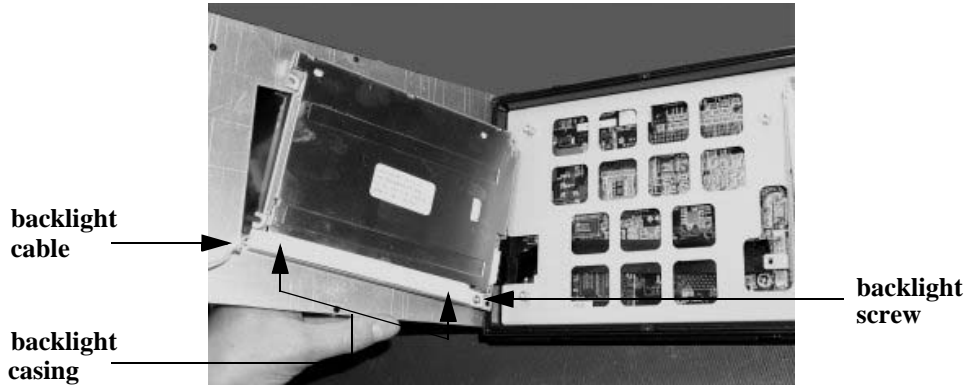

Figure 4 Backlight Casing Location
1. Carefully lay the display unit aside, as shown in *Figure 4*.
The backlight bulb is encased in the white plastic strip at the bottom of the display unit, as shown in *Figure 4*.